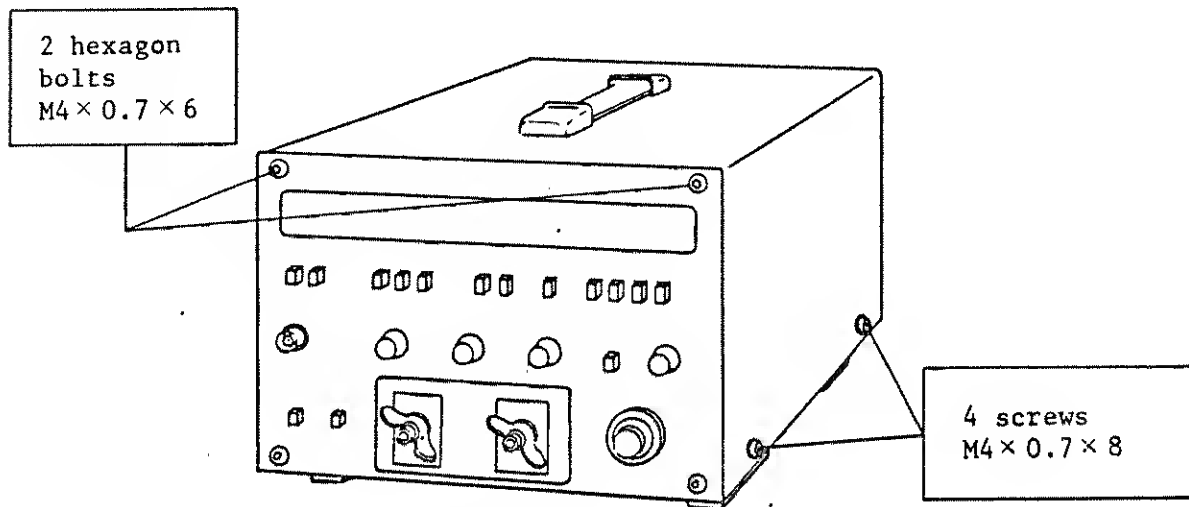

Figure 2-12-1
1. To have access to the internal operation/external operation switch which is installed inside the unit case remove the top cover. (See Fig. 2-12-1.)